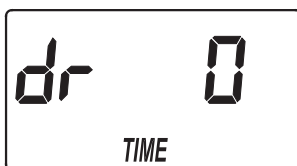

FIG. 21
1. If you completed the previous step, the solution draw / rinse time adjust screen should show in the display (See Figure 21). Otherwise, press and hold for 3 seconds the SELECT button, until the display shows "000 - -", then press the SELECT button twice to display the solution draw / rinse time adjust screen.